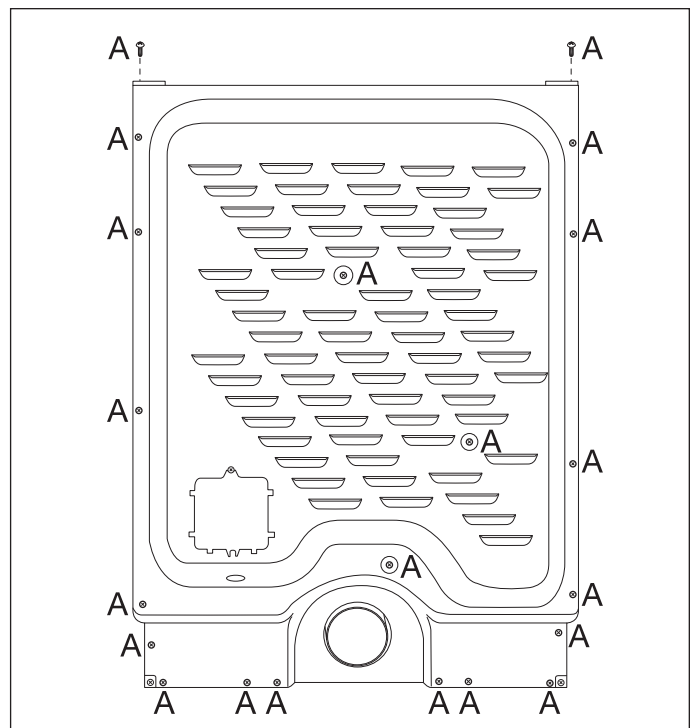

Figure 4-24.
2. Using a #2 square bit screwdriver, extract the 21 screws (Labeled "A" in Figure 4-24) securing the rear panel to the rear of the unit. Remove the rear panel from unit.